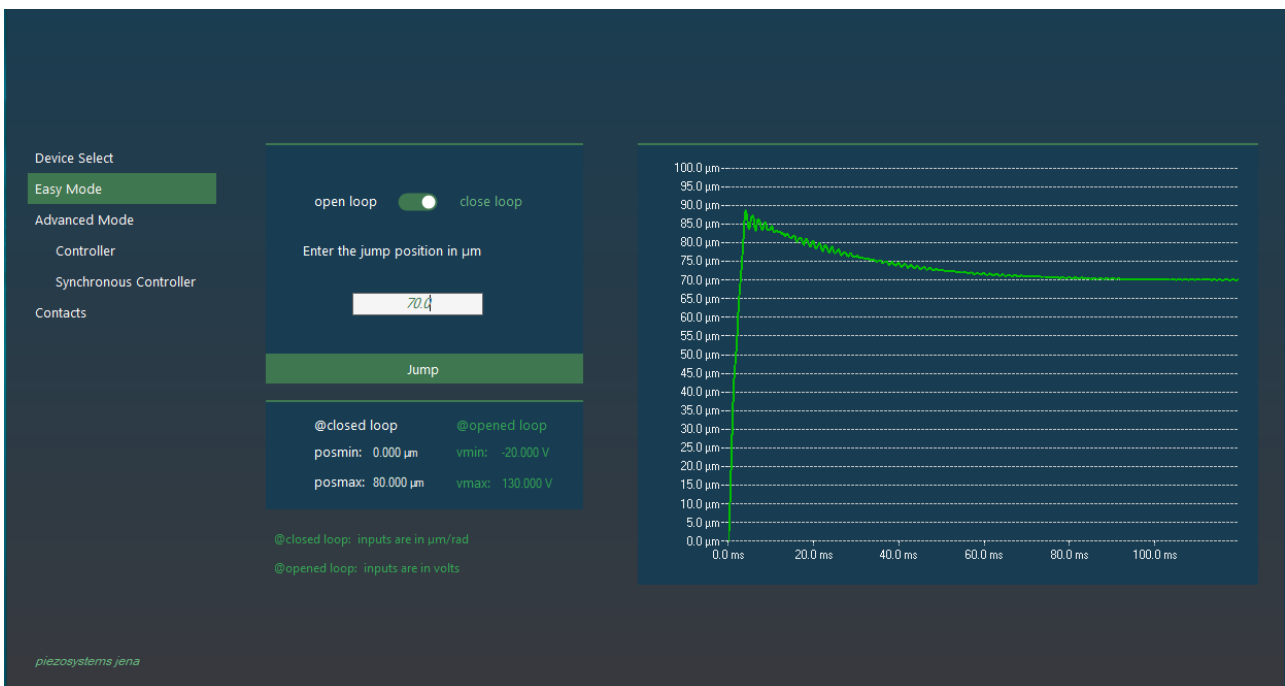

Figure 4 Easy Mode after the Jump
- The result is shown in **Figure 4**.